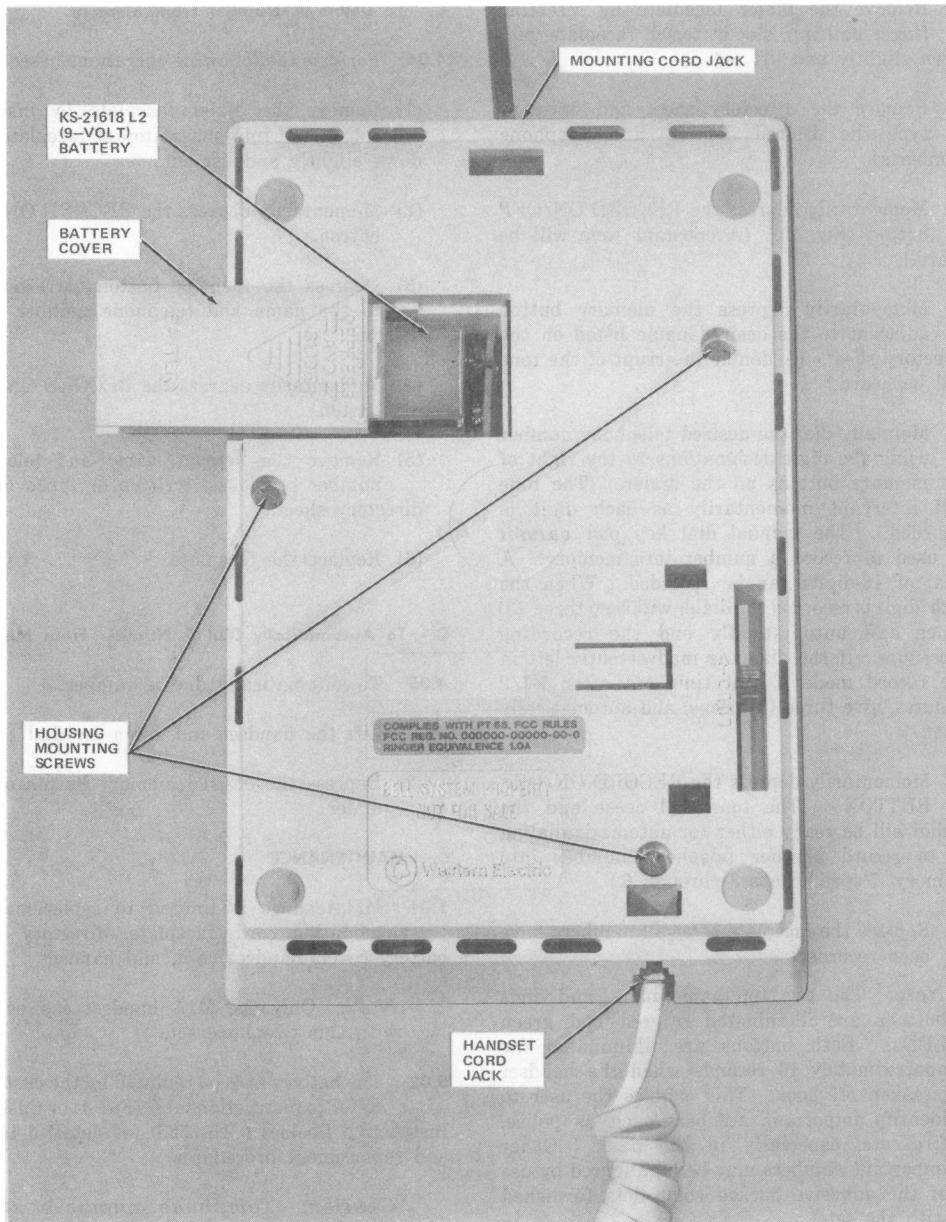

Fig. 3—5001T01A Telephone Set, Bottom View
3.02 The telephone set is shipped with a 9-volt alkaline battery which is to be connected at the time of installation. Remove the battery cover located on the bottom of the telephone set and make the necessary connections (Fig. 3). Place the battery in the battery compartment and replace the cover.
3.03 Plug one end of the mounting cord (D4BU) into the modular jack in the rear of the set and the other end into the 625-type modular connecting block. Connect the handset cord to the set (Fig. 3).
- (1) Dial the appropriate code for ring-back to test the telephone set tone ringer. Move the ringer volume control lever (Fig. 3) on the bottom of the set to check variation of volume. There is no provision for ringer cut off using the volume control.
- (2) Call the CO dial test line, when connected press the dial buttons in sequence 1 through 9, *, 0, and # verifying that correct signals is returned from the CO.